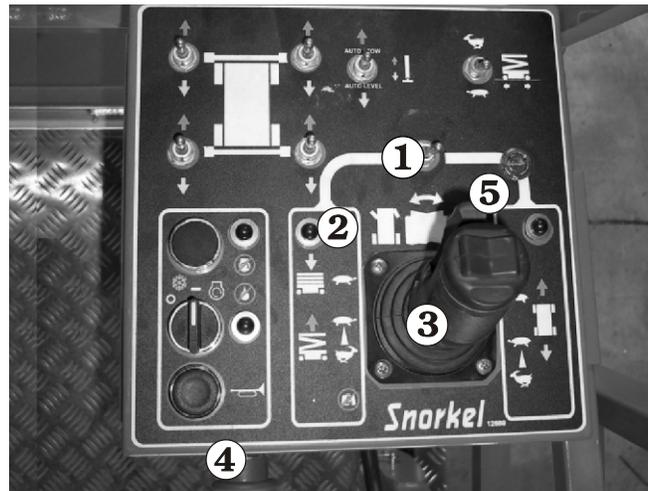

Figure 8.10
2. Set the **Lift/Drive Selector** ① (see Figure 8.10) to lift (left).
3. Squeeze and hold the **Safety Control ⑤** against the Joystick Controller ③ (see Figure 8.10).
4. Pull the **Joystick Controller ③** backward to raise the platform, or push it forward to lower it. The further you pull the **Joystick Controller ③** backward, the faster the platform rises. There is only one down speed.